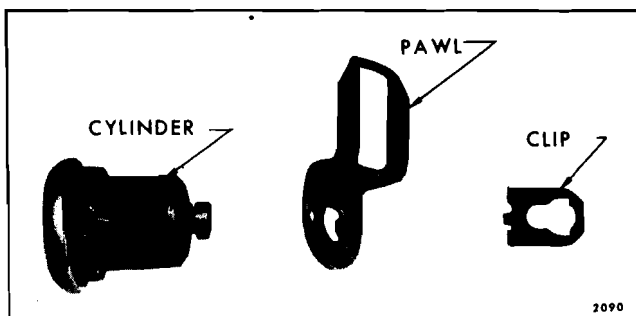

Fig. 6-69—Door Lock Cylinder Assembly
2. With a pointed tool, disengage pawl retaining clip and remove pawl (Figure 6-69).